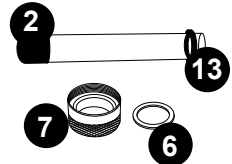

Figure 14.5f
- Remove the quartz seal compression nut (7) by turning it **counterclockwise**, Figure 14.5c. Use a pair of channel-lock pliers if needed, Figure 14.5e. You will notice that there is a stainless steel compression washer (6) that slides over the quartz tube. Save the washer (6) for later use, Figure 14.5f. There is also a black seal ring (13), grasp the black seal ring; slowly and carefully remove the quartz tube.
- Now you are ready to clean or replace the quartz tube (2). For the cleaning of the quartz tube (2), follow steps 8 and 9 then proceed to step 10. For replacing of the quartz tube (2), skip steps 8 and 9 and proceed to step 10.